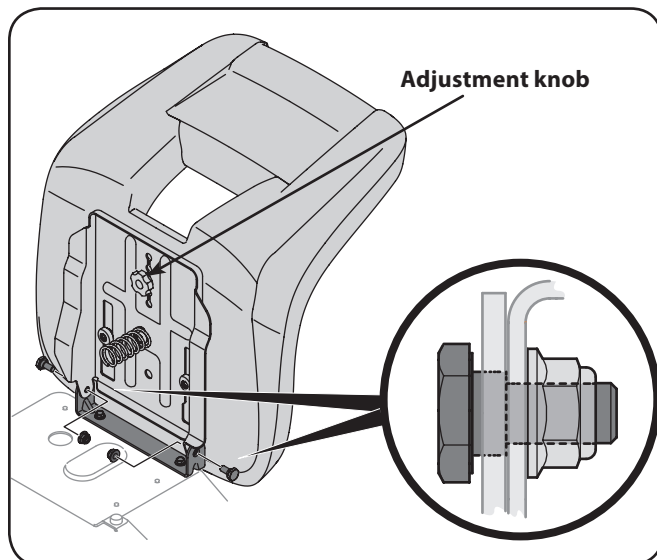

Figure 3-7
- Install the two shoulder bolts and lock nuts removed from the seat mounting bracket in Step 1. See Figure 3-7.
Note: Make sure that the bolt's shoulder is completely recessed into the seat bracket when securing the lock nut. See the inset in Figure 3-7.
- To adjust the position of the seat, remove the adjustment knob on the bottom of the seat. Slide the seat forward or backward as desired. Retighten the adjustment knob. Refer to Figure 3-7.